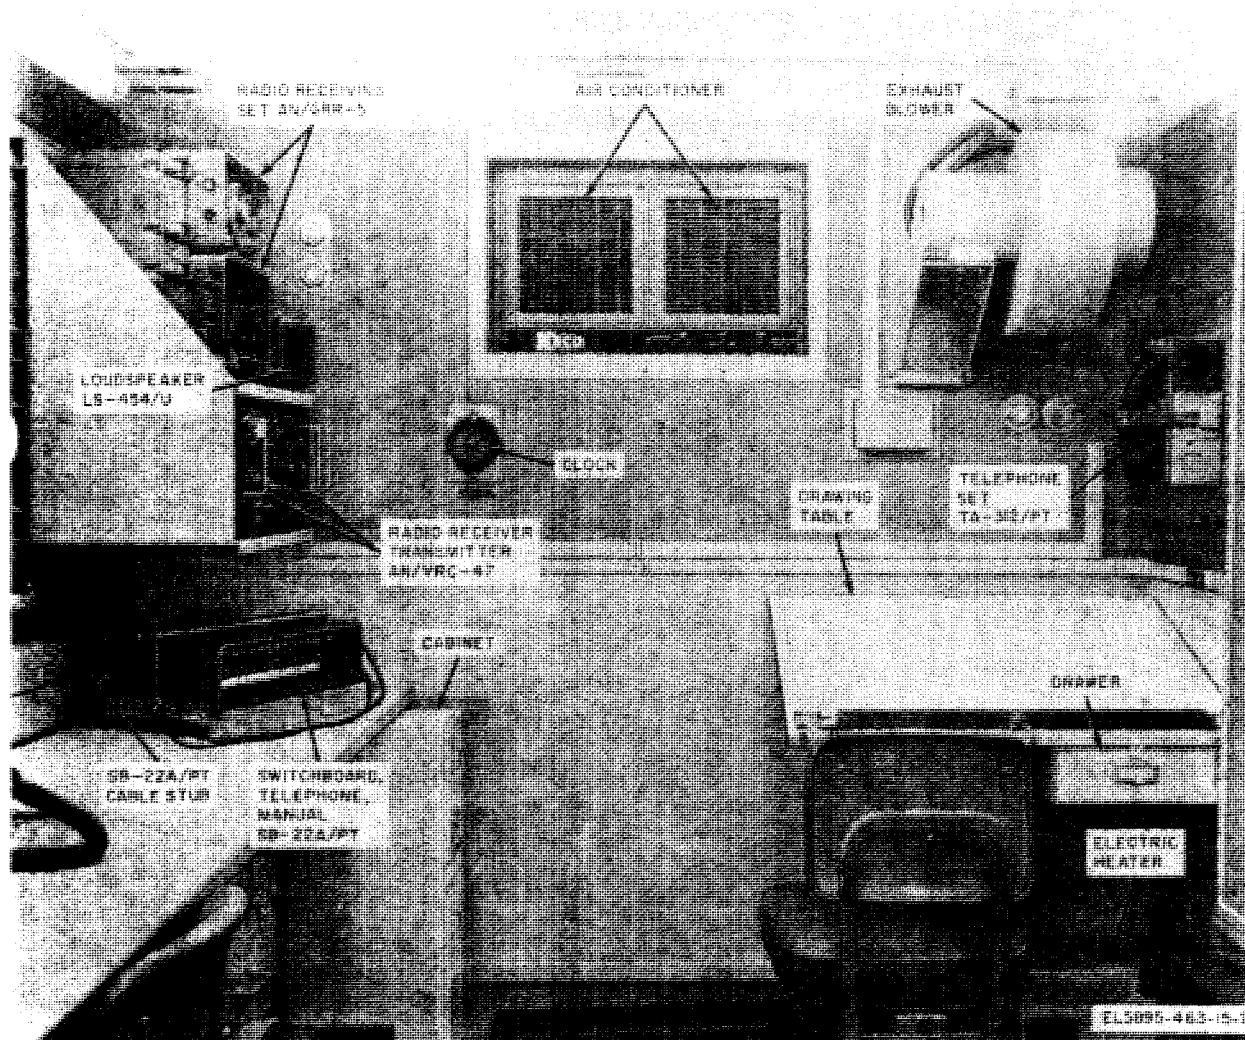

Figure 1-7. Operations Center, Communications AN/MSC-31A, interior front view.
(1) *Switchboard, Telephone, Manual SB-22A/PT* (fig. 1-7). The SB22A/PT (TM 11-5805-262-12) is a local, battery-powered telephone switchboard used to switch 12 telephone circuits.
(2) *Telephone Set TA-312/PT* (fig. 1-7). The TA-312/PTs (TM 11-5805-201-12) are used for local telephone communication. One TA-312/PT (less carrying case) is mounted on the curbside wall. Two TA-312/PT's are stored in a storage cabinet; when required for use, they are placed on the tabletop adjacent to a PHONE jack.
(4) Radio Set AN/VRC-47. The AX VRC-47 (TM 11-5820-401-10) provides short range, two-way, frequency-modulated (FM) radiotelephone communications between vehicles or crew-served weapons. The AN VRC-47 radio set consists of Receiver-Transmitter, Radio RT-524/VRC (fig. 1-7) and Receiver, Radio R-112 VRC (fig. 1-7), and Loudspeaker, Permanent Magnet LS-154/U (fig. 1-7).
(5) Radio Receiving Set AN/GRR-5 (fig. 1-7). The AN GRR-5 (TM 11-5820-284-15) is a mobile amplitude modulated (am.) receiver used primarily to monitor warning broadcast nets. The AN GRR-5 consists of Receiver R-174/GRR-5, Power Supply PP-308/URR, and accessories.
b. *Blowers.* The blowers, one store and one installed, are equipped with removable covers which muffle the sound when the blower is in operation. The installed blower (fig. 1-7) is an exhaust blower to the outside of the shelter.